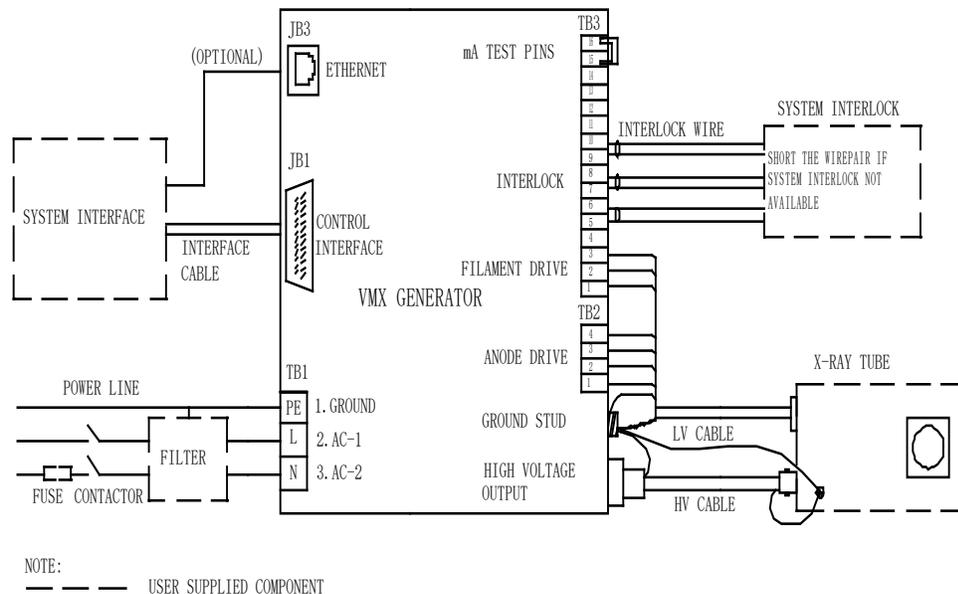

Figure 2-2: Overall connection
3. A three-wire terminal block (TB1) is provided for connecting to the AC supply (refer to Figure 2-2).
Tube current test pins are provided for monitoring the actual tube current (mA) if needed. Normally, a jumper is installed to short the two pins (refer to Figure 2-2).
The chassis of the PMX generator must be grounded to the local earth ground and also to the tube housing ground. See Figure 2-2 for typical operating setup. A three-wire terminal block is provided for connecting to the AC supply.